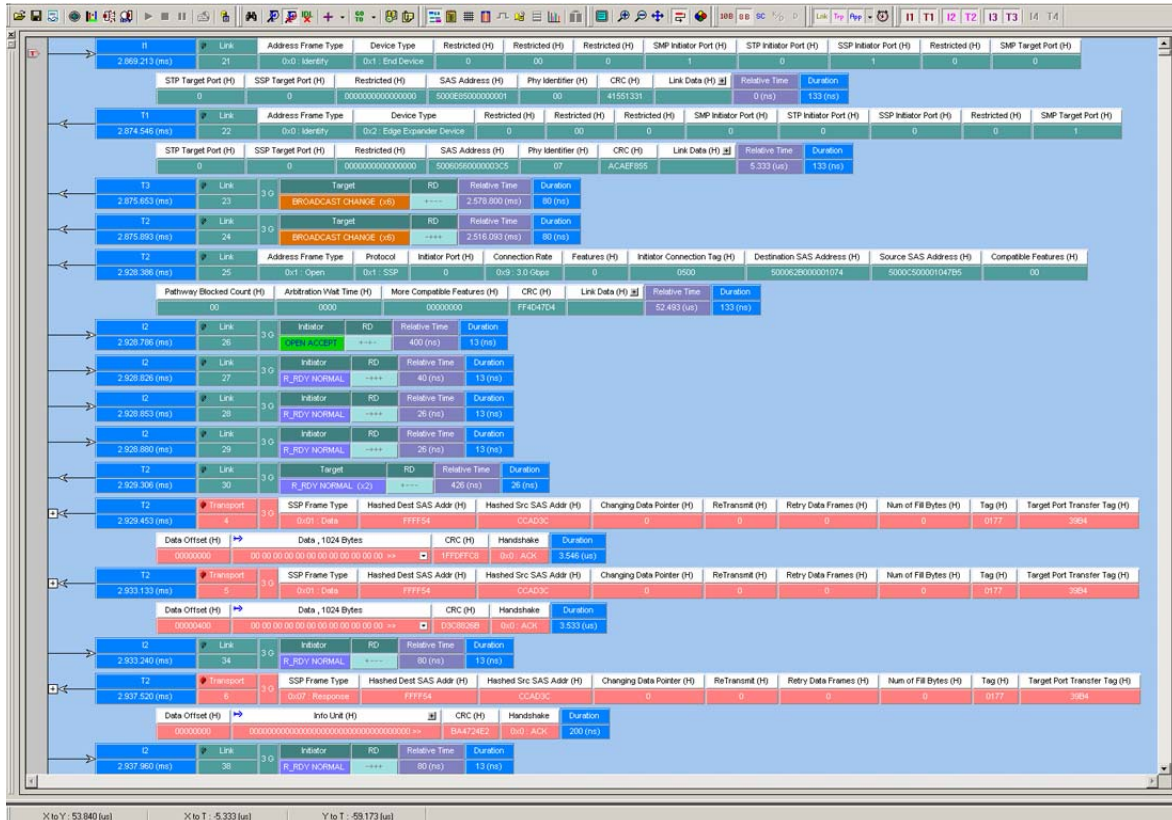

Figure 25. SAS: Analyzer Trace Capture Display
5. After the project runs, you see an analyzer trace capture display similar to the one shown in Figure 25.